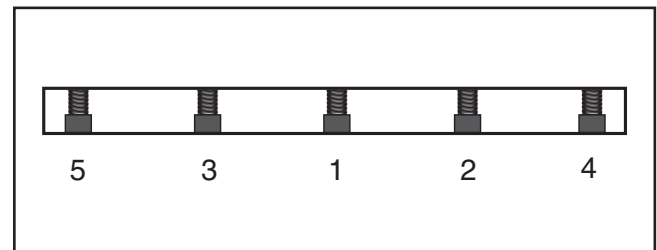

Figure 63. Knife gib bolt tightening sequence.
15. Slightly tighten all the gib bolts, starting in the middle and working your way to the ends by alternating left and right, as illustrated in **Figure 63**. Repeat this step with the rest of the knives.